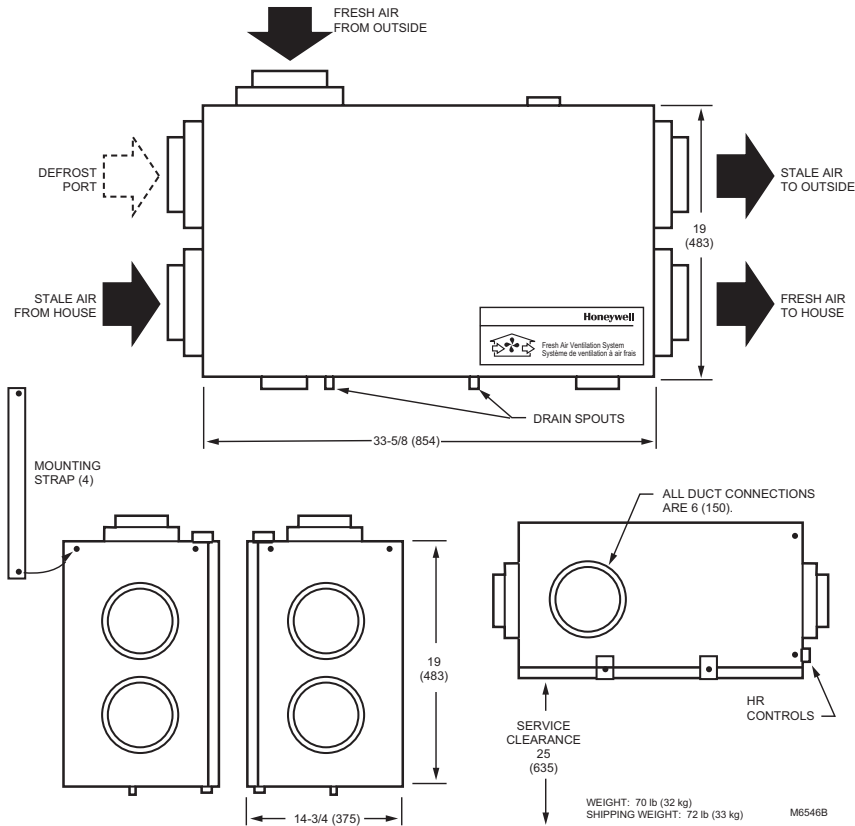

Fig. 2. HR150/ER150 and HR200/ER200 dimensions in in. (mm).
**Dimensions:** See Fig. 2 and 3.
1. Mount the four vibration isolation straps (provided) to the side of the ventilator using the mounting screws located on the cabinet. See Fig. 2 and 3.